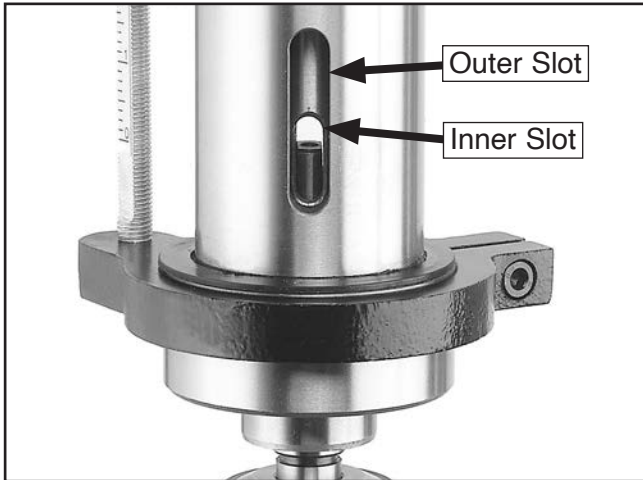

Figure 34. Example of inner and outer drift key slots aligned.
- Rotate spindle until inner drift key slot is aligned with outer slot (see **Figure 34**). You will see through spindle when slot is properly aligned.